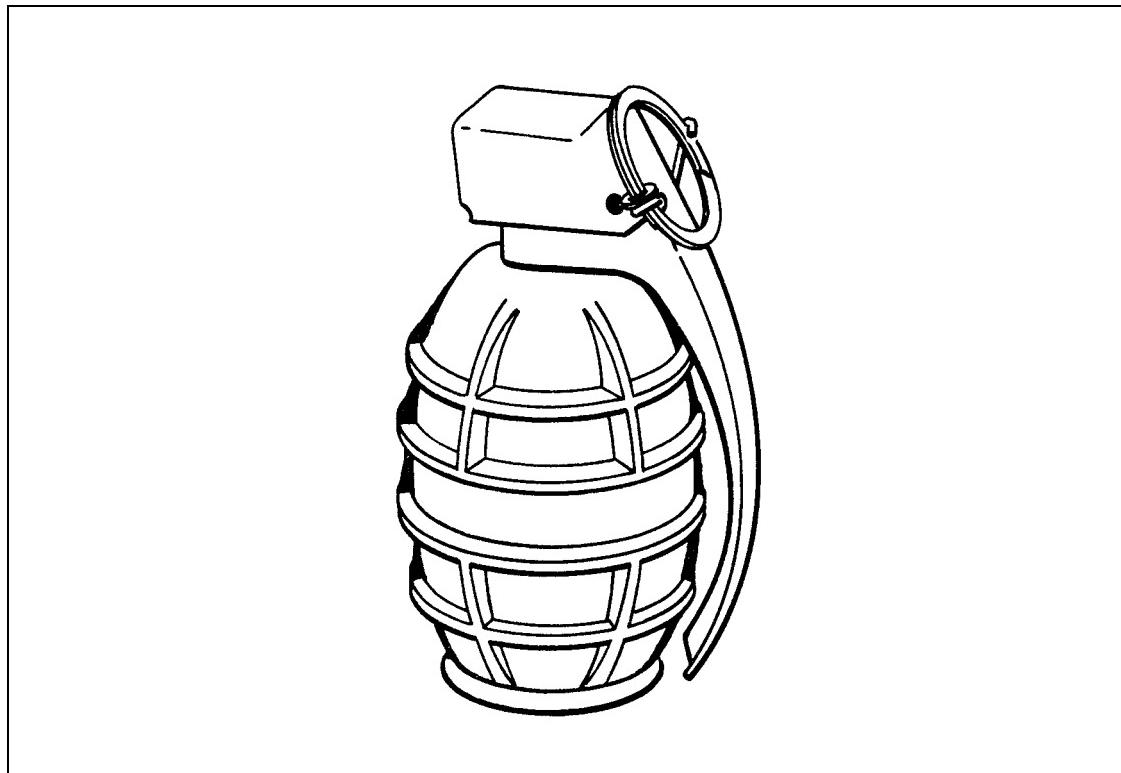

Figure F-11. M-DN 11 fragmentation hand grenade.
- Type: Fragmentation, defensive. (Figure F-11)